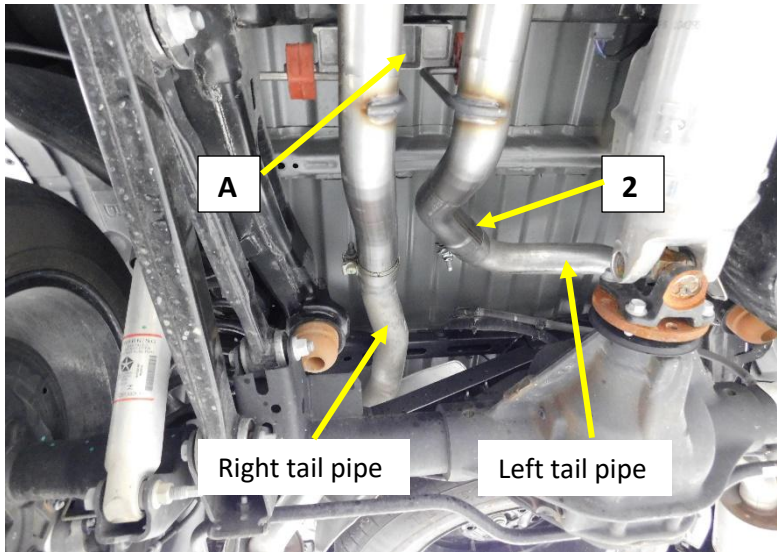

Figure. 4
1. Install the 2 3/4" band clamp **(2)** on to the 818204 Direct fit left muffler outlet pipes reduced end, the second 2 3/4" band clamp **(2)** installs at the slip joint connection of the left muffler inlet pipe. Position the bolts to the right side and nuts facing down. **Fig.4 / Fig.5**
2. Install the Muffler hanger bracket **(A)** on to the tail pipe hanger rods. Be sure the bracket is facing the correct way. **Fig. 4**
3. Position the muffler assembly into the vehicle and align the left Muffler outlet pipe to the Left tail pipe. Work the tail pipe into the slip joint. Do not tighten the clamps . **Fig.4**
6. Align the Muffler rear hanger bracket assembly (A) to the studs on the frame and install the (2x) 13mm nuts. **Fig.4**
7. Install the OEM bolts at the flange connection (C) between the right Muffler Inlet Pipe and the OEM mid pipe. Be sure the metal gasket is in place.